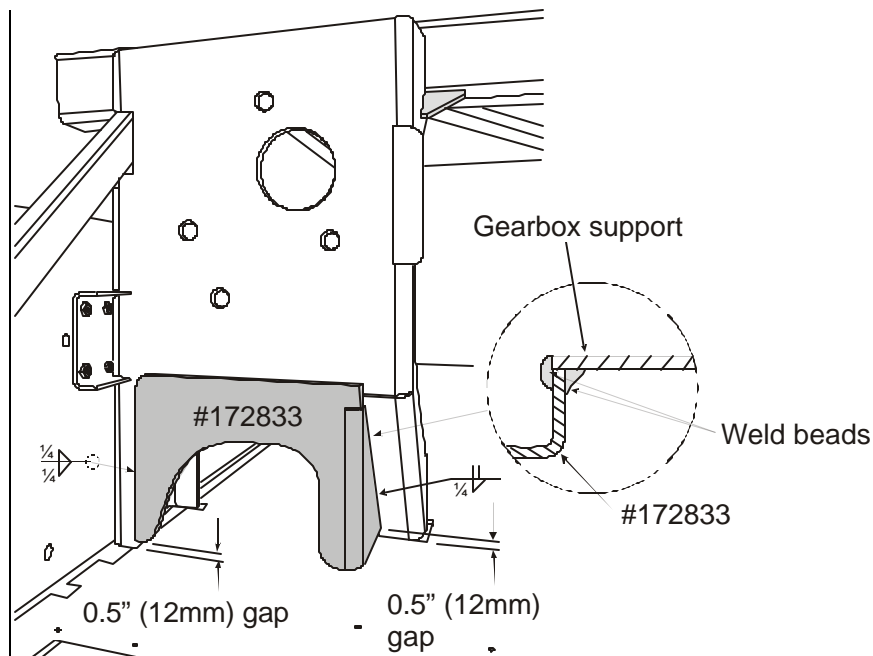

FIGURE 2: WELDING OF #172833
6. Position reinforcement part #172833 as shown in figure 2. Keep a gap of $\frac{1}{2}$ " (12mm) between the bottom of reinforcement part and the floor. Weld all around the reinforcement part, front side and back side with a weld bead section equal to or greater than the part thickness. To perform welding, refer to WELDING PROCEDURE and welding specifications indicated in paragraph: **Steel – Steel Welding**.
- F. Using a grinder, clean the seating surfaces of the support to ensure adequate seating of the reinforcement part. Seat reinforcement part on support as per figure 2 and 3 and hold with a C-clamp "Vise-grip".
- G. To perform welding, refer to figure 2 and 3 and welding specifications indicated in paragraph: **Steel – Steel Welding**.